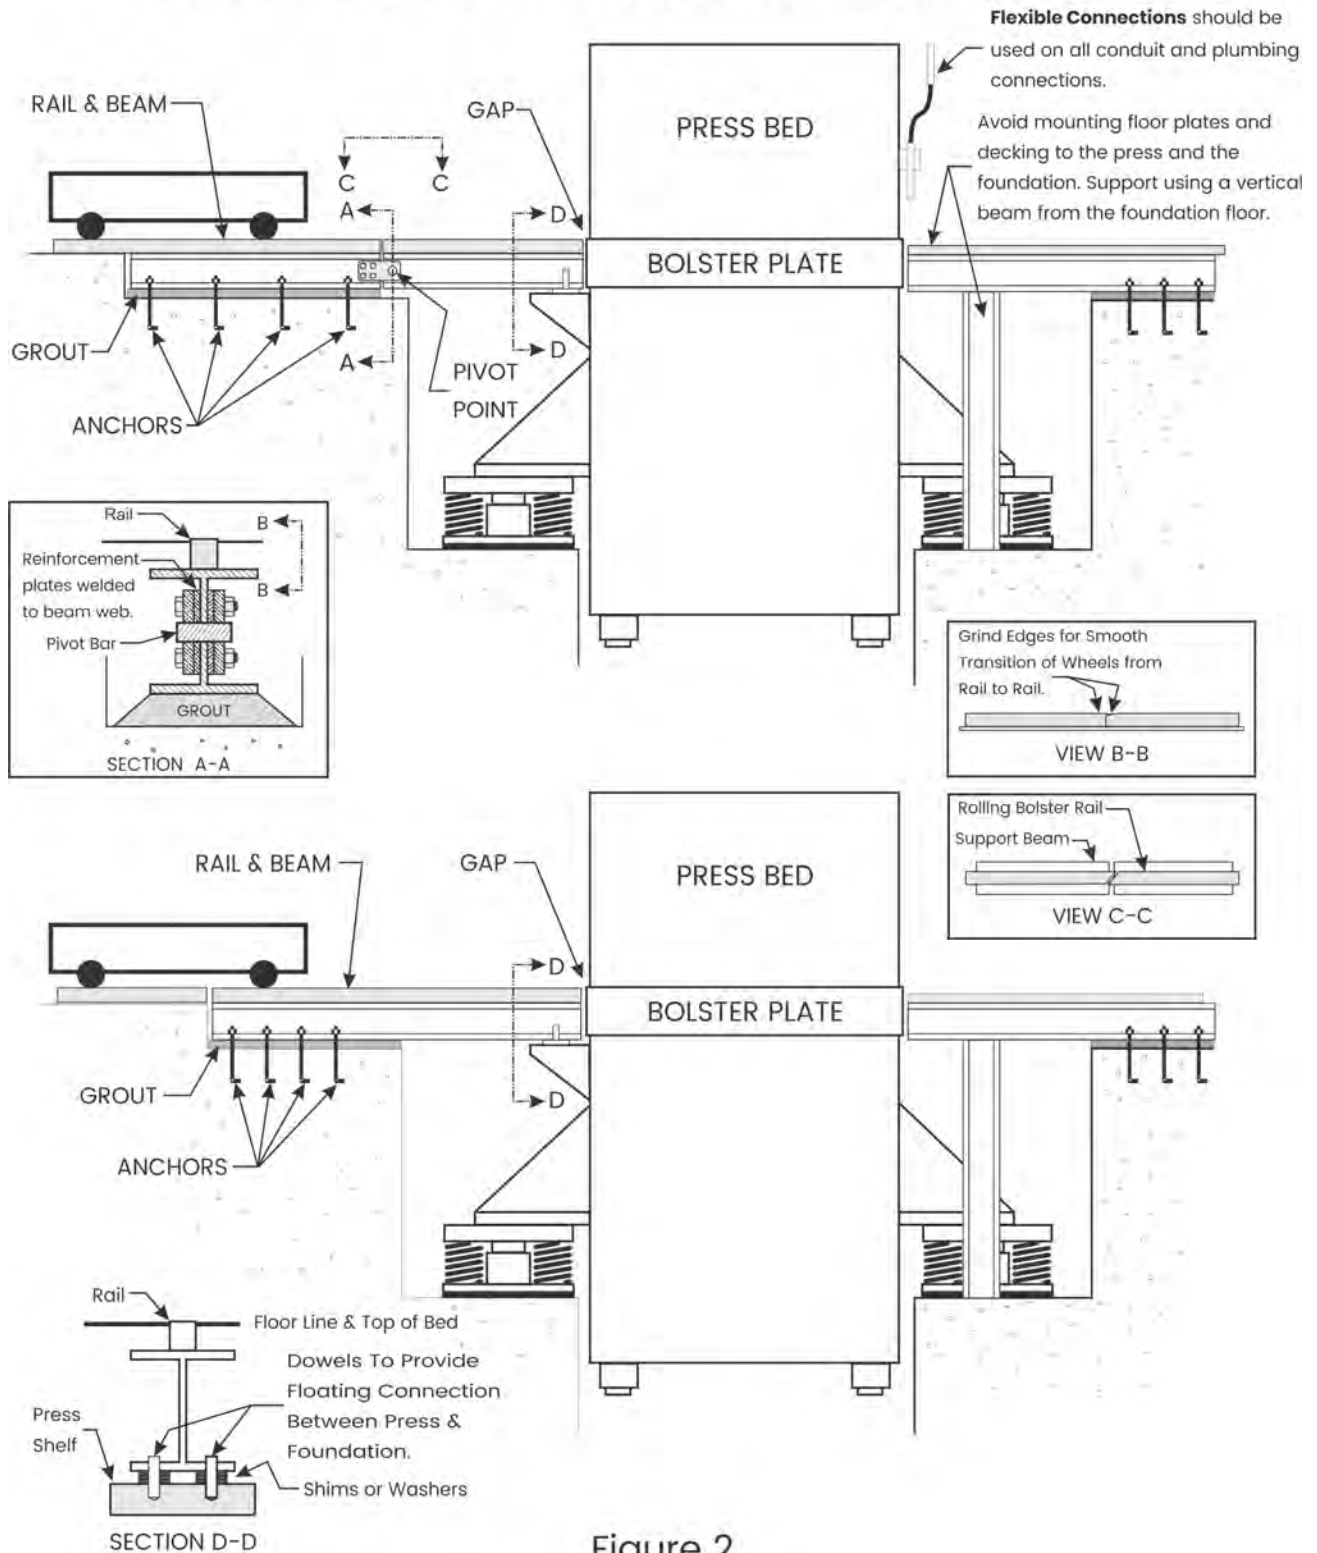

Figure 2
5. If rolling bolster plates or die carts are going to be used, they must be installed in accordance with Figure 2. Since spring isolators are soft, they will deflect during loading and unloading of the die. The first method shown is preferred since rolling bolster beam floats with a changing press elevation, negating any alignment problems. Vibro/Dynamics spring isolators can also be equipped with an optional Lift/Lock™ feature that hydraulically prevents press tilting during this operation.